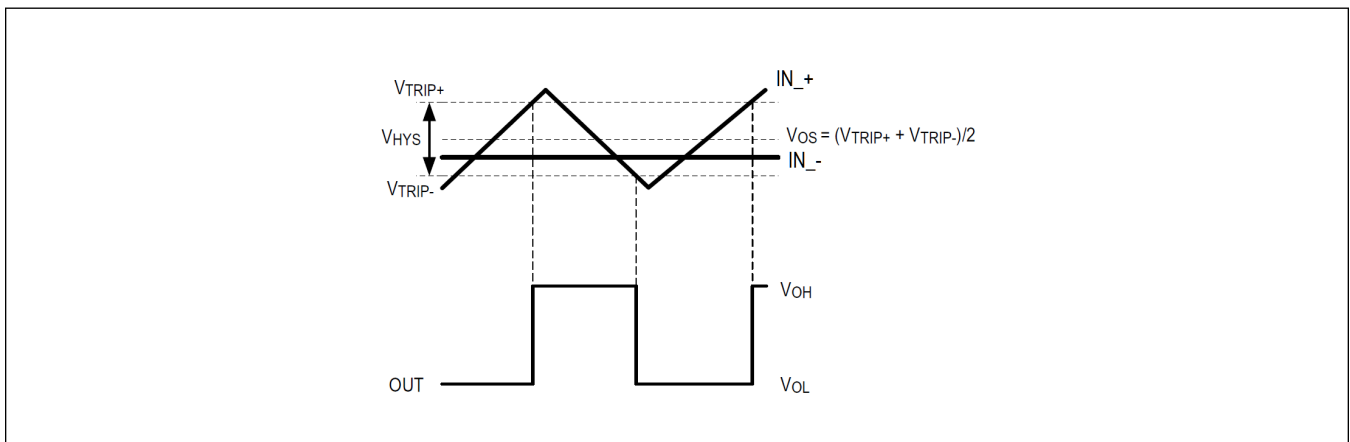

Figure 1. Hysteresis Band
**Note 3:** The hysteresis-related trip points are defined as the edges of the hysteresis band, measured with respect to the center of the band (i.e.,  $V_{OS}$ ) (Figure 1).
The hysteresis in a comparator creates two trip points: one for upper threshold ( $V_{TRIP+}$ ) and one for lower threshold ( $V_{TRIP-}$ ) for voltage transitions on the input signal (Figure 1). The difference between the trip points is the hysteresis band ( $V_{HYS}$ ). When the comparator's input voltages are equal, the hysteresis effectively causes one comparator input to move quickly past the other, thus taking the input out of the region where oscillation occurs. Figure 1 illustrates the case in which  $IN_-$  has a fixed voltage applied, and  $IN_+$  is varied. If the inputs were reversed, the figure would be the same, except with an inverted output.